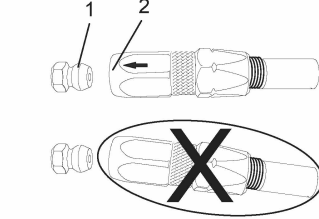

Fig. 8
2. Clean the grease nipple (1) (Fig. 8).
3. Push the grease gun coupler (2) onto the grease nipple and firmly press the coupler onto the nipple.